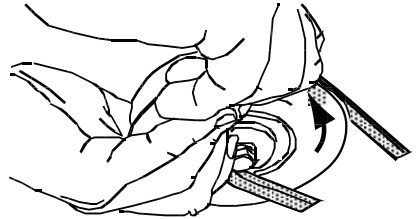

Fig. 59
9. Pull the right side of the belt and place the narrow "V" side of the belt into the PTO pulley (Fig. 59).